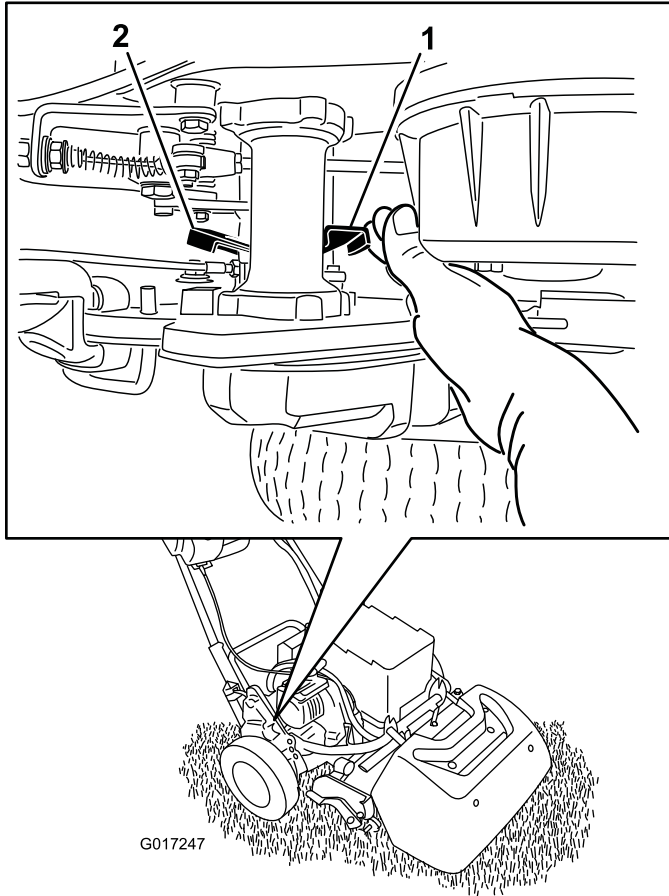

Figure 38
1. On the right rear corner of the machine, locate the traction engage/disengage lever next to the drive housing drum (Figure 38).